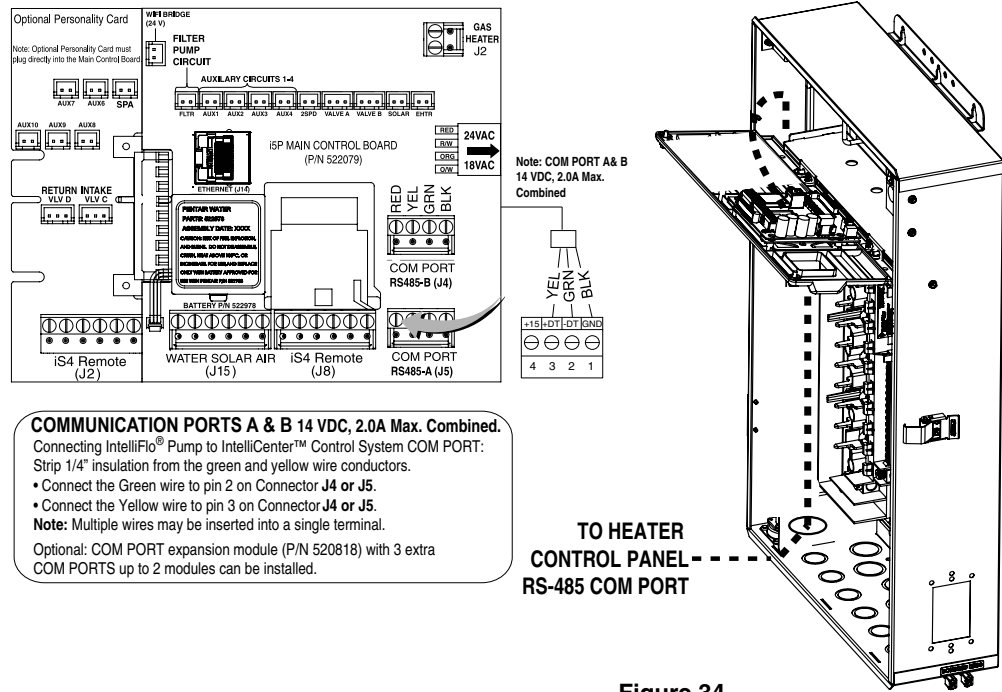

Figure 34.
4. Run the RS-485 cable from the heater's control board RS-485 COM port terminal connector to the Load Center or Power Center. See wiring connection **Figure 34** on next page.